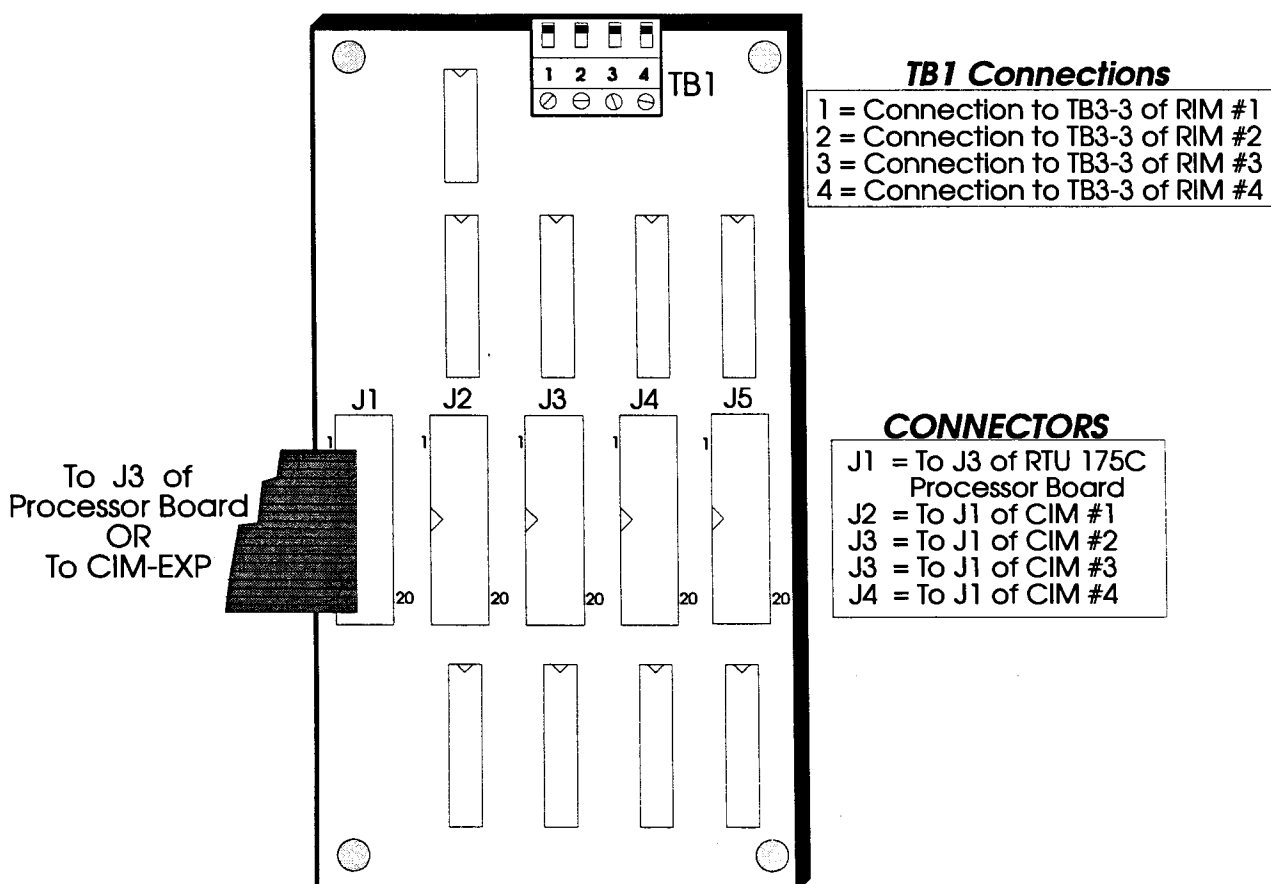

Figure 3-39. CIM EXPANDER BOARD, CIM-EXP
The CIM Expander Module (CIM-EXP) is used to provide the connection of up to for (4) CIM-2 modules, and therefore support up to eight (8) Card Readers in the RTU. The CIM-EXP module connects directly to the RTU 175C Processor board via its J1 connector, with connectors J2, J3, J4 and J5 used for connections to each of the four CIM modules (see Figure 3-39). Any unused connectors must have a terminator installed (provided by MDI).